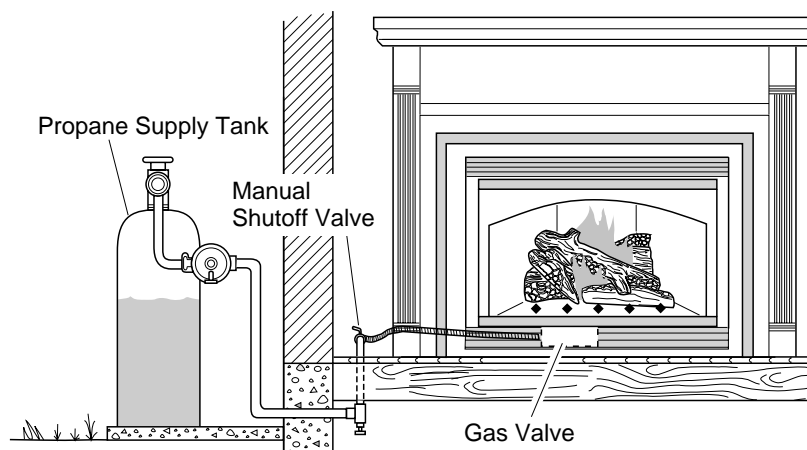
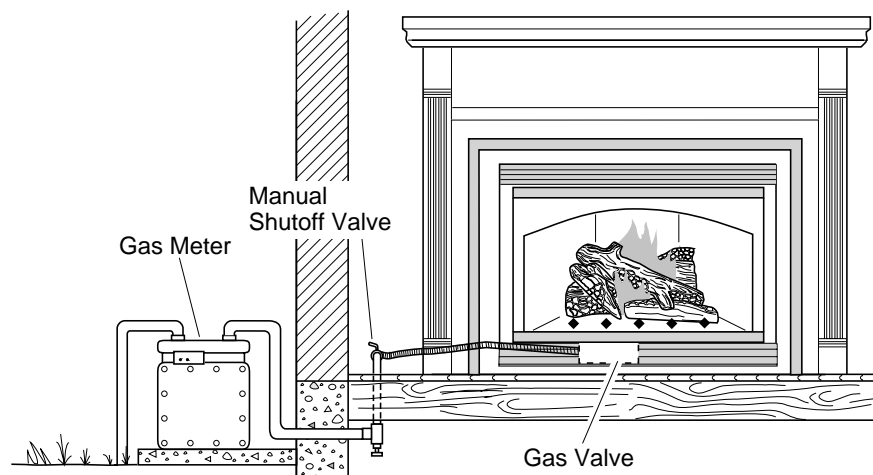

Figure 39 - Checking Gas Joints for Propane/LP Gas Fireplace
Figure 40 - Checking Gas Joints for Natural Gas Fireplace
3. Check all joints from propane supply tank or gas meter to manual shutoff valve (see Figure 39 for propane or Figure 40 for natural). Apply commercial leak test solution to all gas joints. Bubbles forming show a leak. Correct all leaks at once.
4. Check all joints from manual shutoff valve to thermostat gas valve (see Figure 39 for propane or Figure 40 for natural). Apply commercial leak test solution to all gas joints. Bubbles forming show a leak. Correct all leaks at once.